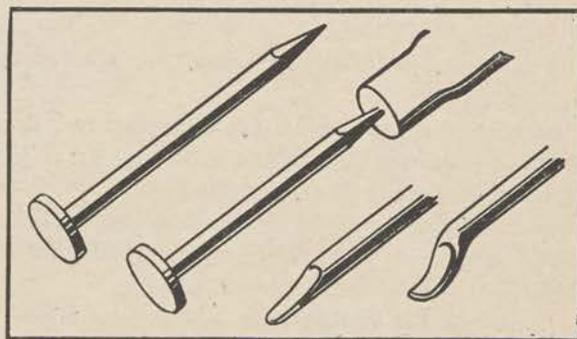

Figure 10.
d. A beveler for leather work or metal repousse is also made from a nail (fig. 10). Drive the pointed